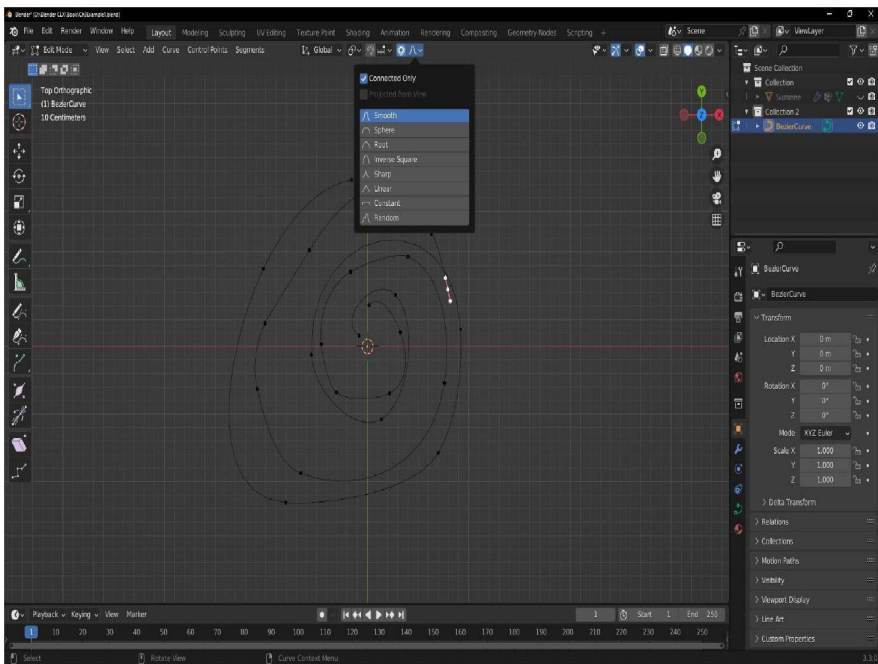

Figure 9.6: Proportional Editing with Connected Only enabled
34. From the middle of the top menu bar in the **3D Viewport**, enable **Proportional Editing**, appearing as concentric circles, then, via the dropdown menu to the right of the **Proportional Editing** icon, select **Connected Only** as shown in *Figure 9.6*: